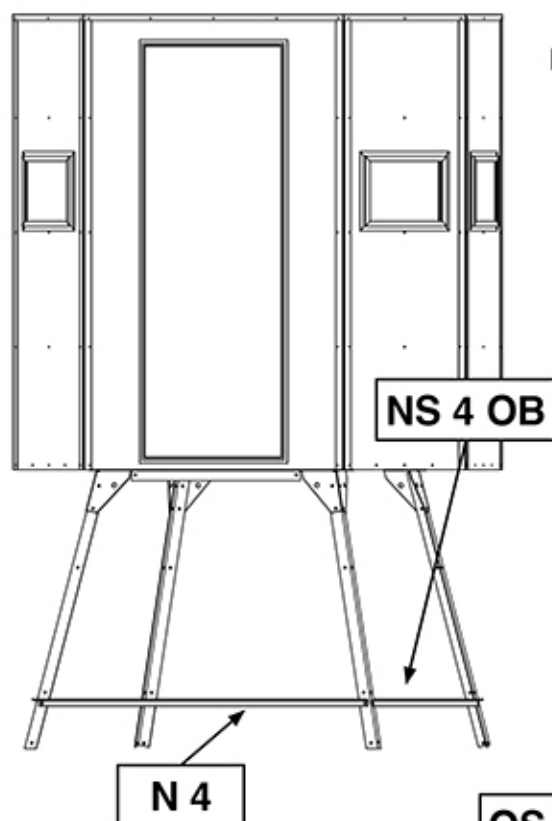

Figure 2
Step 3: Install the **Horizontal Bracing** as shown for support. (Figure 2)